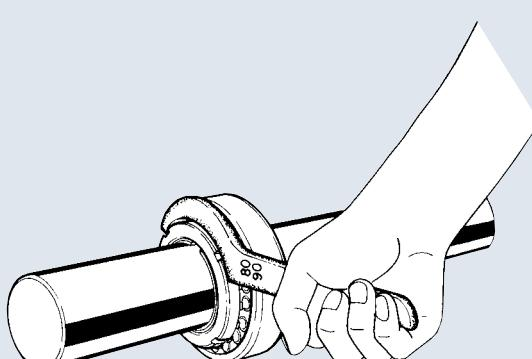

Fig. 9.14
(6) To tighten the nut, use a spanner wrench illustrated in **Fig. 9.14**.